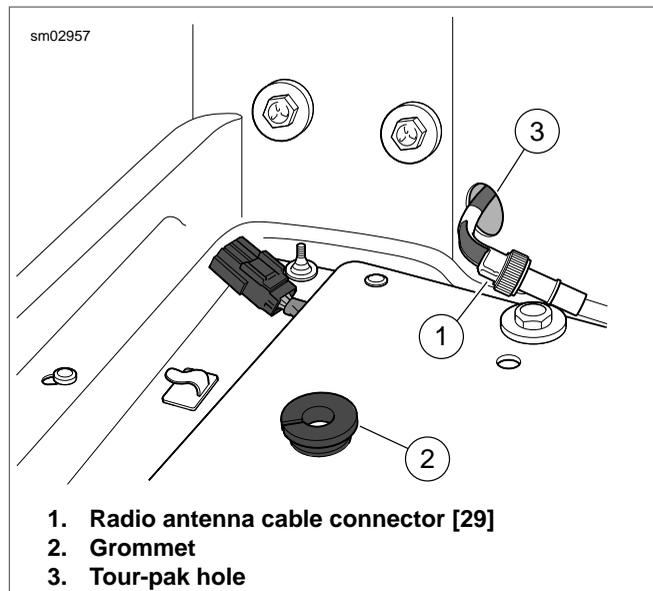

Figure 8-119. Feed Main Harness Through Tour-Pak Hole
14. Pull Tour-Pak lights and radio antenna cable connectors out through hole at front of Tour-Pak. See Figure 8-119.